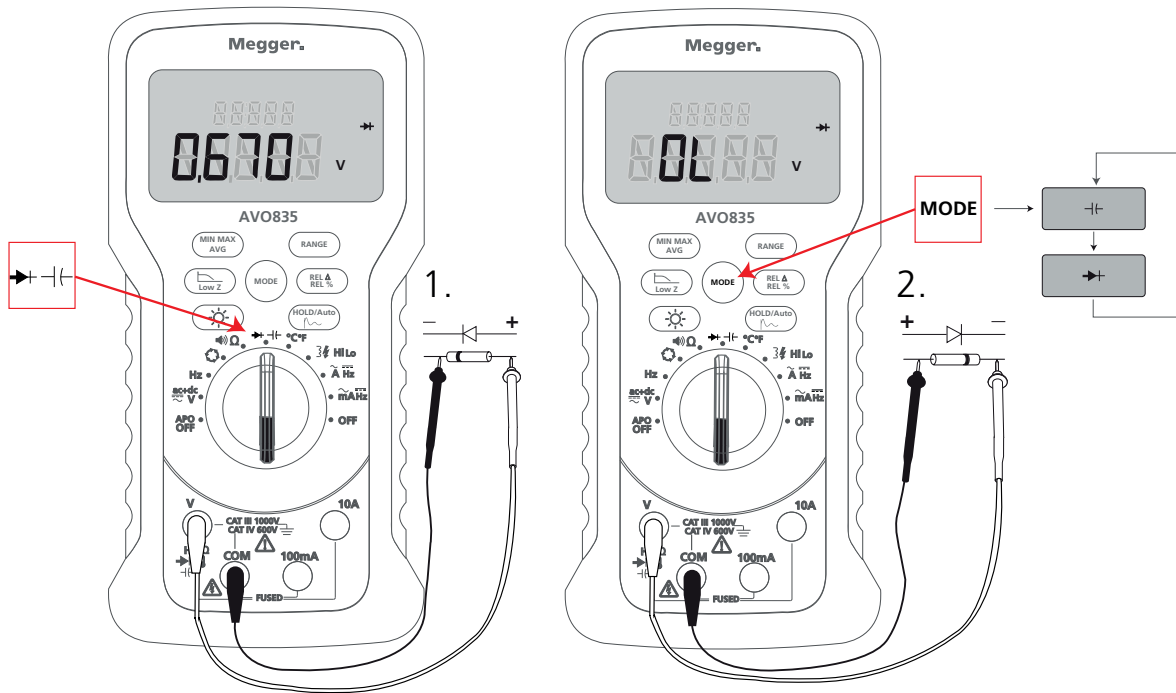

Fig 7: Diode Test Set-up
- Set-up the instrument as shown in Fig 7 for forward or reverse bias.